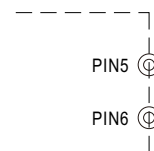

Fig. 4.2 Remove the CN1
- (2) Remove the shorting connector on CN1 that is shown in Fig 4.2, the Overload Protection Type will be "continuous constant current limiting".